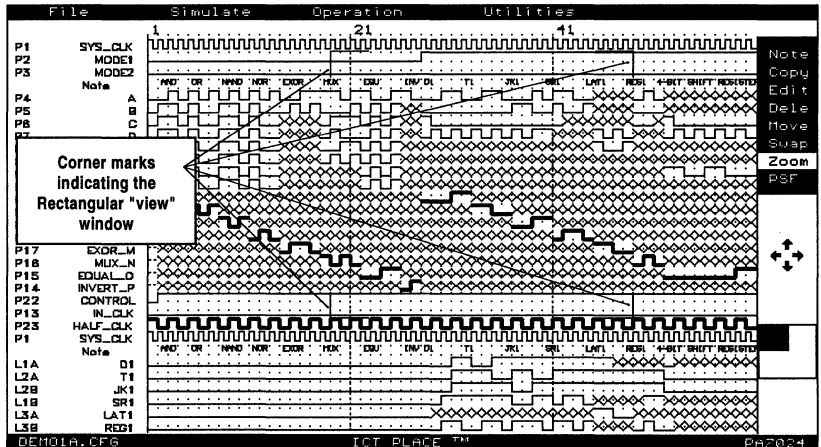

Figure 10-52, Mode B of the "Zoom" waveform screen
- To enter Mode B, click at the "Zoom" menu once again but this time don't release the left button of the mouse. A rectangular box depicting a window view of the current selected waveform screen is displayed (Figure 10-52). This rectangular "view" window can be moved to another location by moving the mouse. If you wish to return to Mode A at this time, press the right button of the mouse while the left button is being pressed. Otherwise, releasing the left button of the mouse will return you to the normal waveform screen selected via the rectangular "view" window.